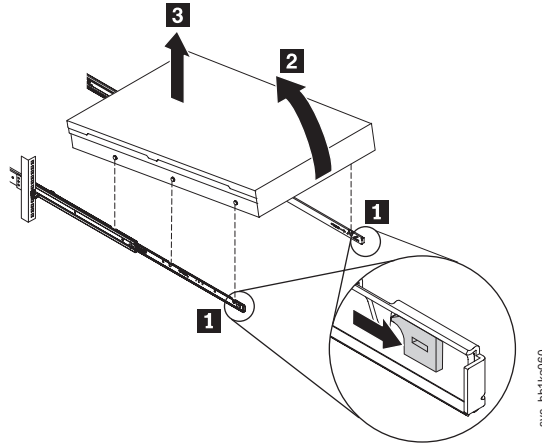

Figure 37. Removing the SAN Volume Controller 2145-CF8 from the rack
4. Pull forward the two white catches (**1** in Figure 37 on page 51) on the side of the rails, and lift up the front of the node very slightly.